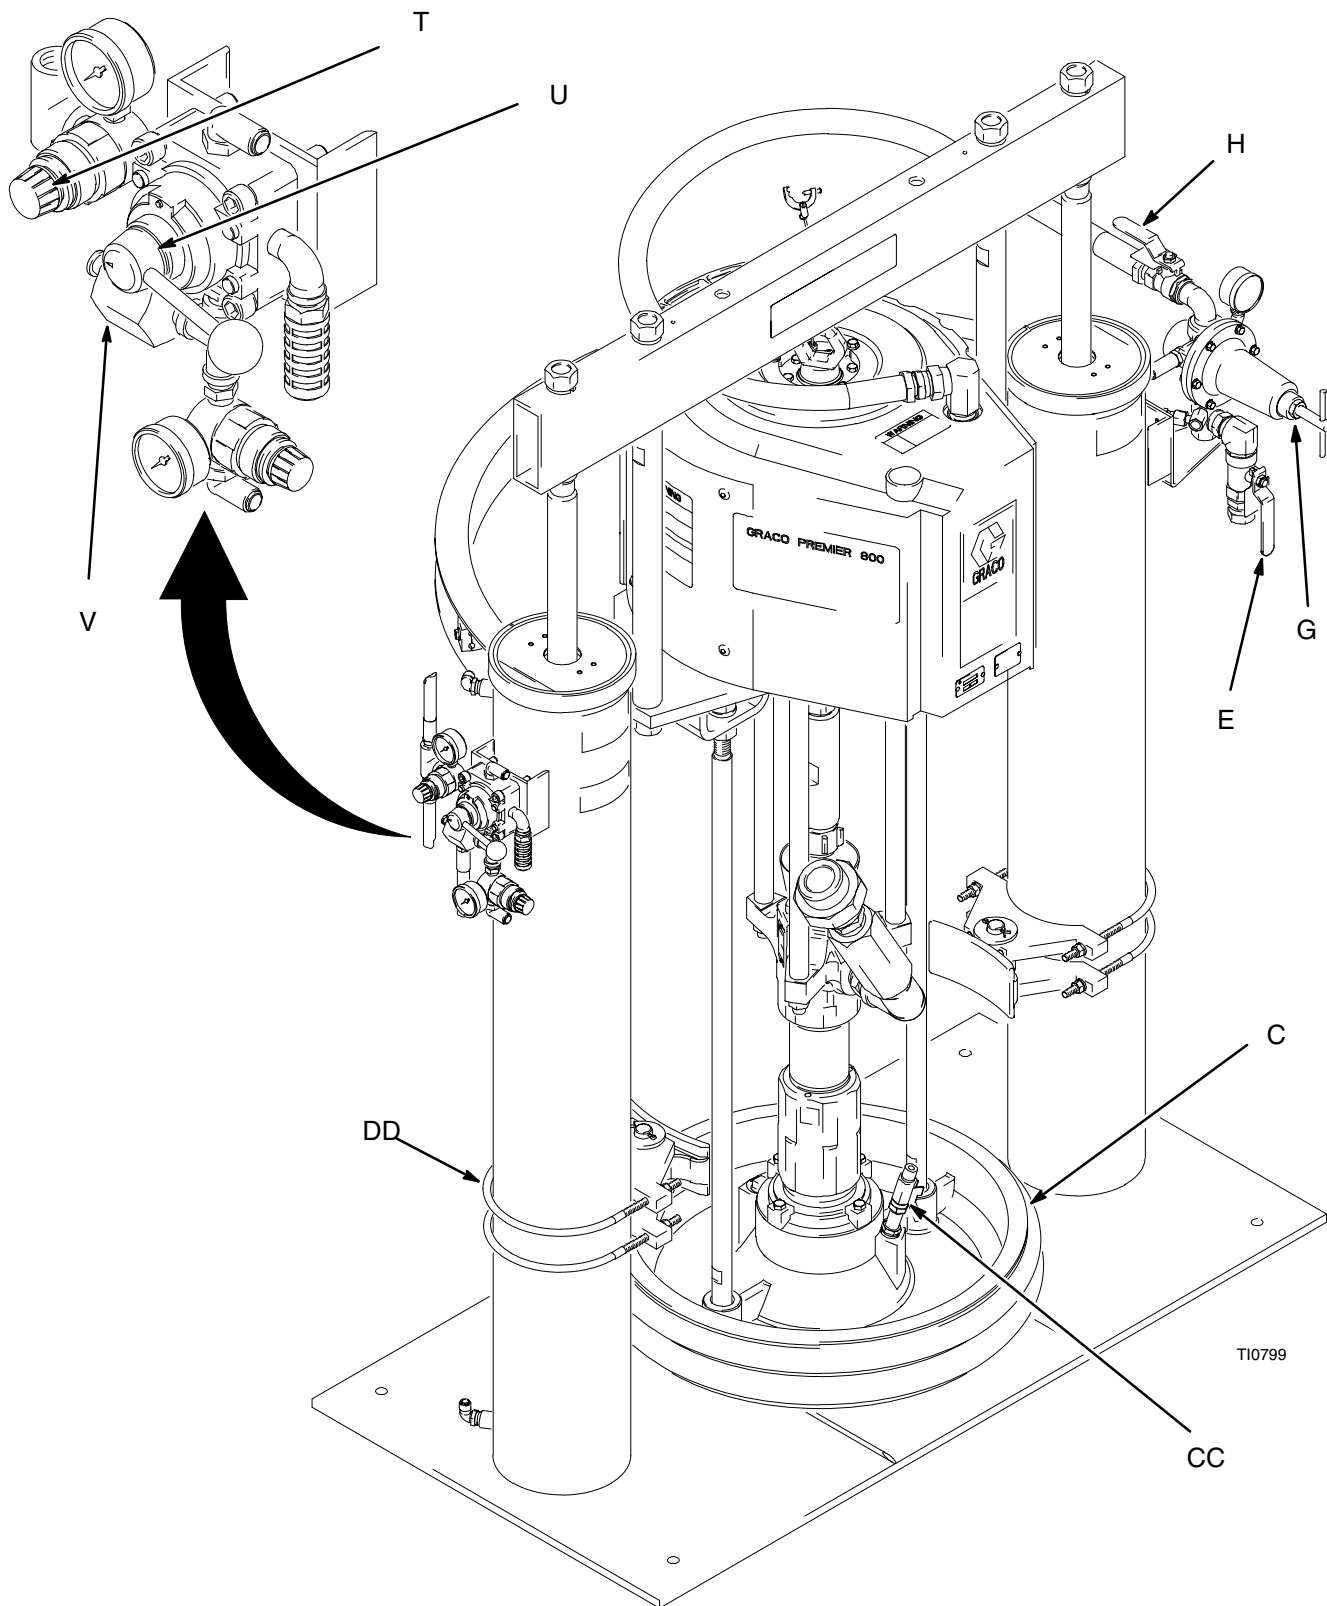

Fig. 5
2. Close all air regulators and air valves. See Fig. 5.
3. Open main air bleed valve (E). Move director valve (U) handle so arrow points up. Slowly open air regulator (T) until ram starts to move upward and let ram rise to full height.
4. Set full drum of fluid on ram base, slide drum back against tube stop, and center under ram plate (C). Use drum clamps (DD) to center, hold, and properly align drum with ram.
1. Be sure pump air regulator (G) is closed. Set ram air regulator (T) to 3.5 bar, 0.35 MPa (50 psi). Set director valve (U) to DOWN. See Fig. 5.
3. Keep director valve (U) set to DOWN while pump is operating.
1. Stop pump. Close pump air bleed valve (H). See Fig. 5.
2. Before raising wiper plate, locate push button on air release valve (V).
3. Set director valve (U) to UP to raise wiper plate. At the same time, carefully equalize pressure in drum by operating air release valve.
1. Set director valve (U) to neutral. See Fig. 5.